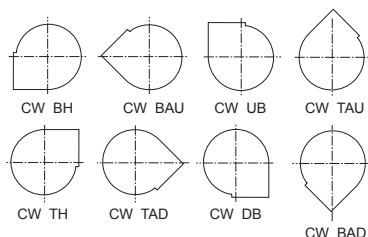

Figure 3
1. This Dayton blower is assembled and shipped in the upblast position. If another position is desired refer to Figure 3 (viewed from drive side) for optional discharge positions.